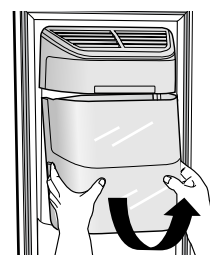

Figure1
- Hold the handle as shown in figure1.